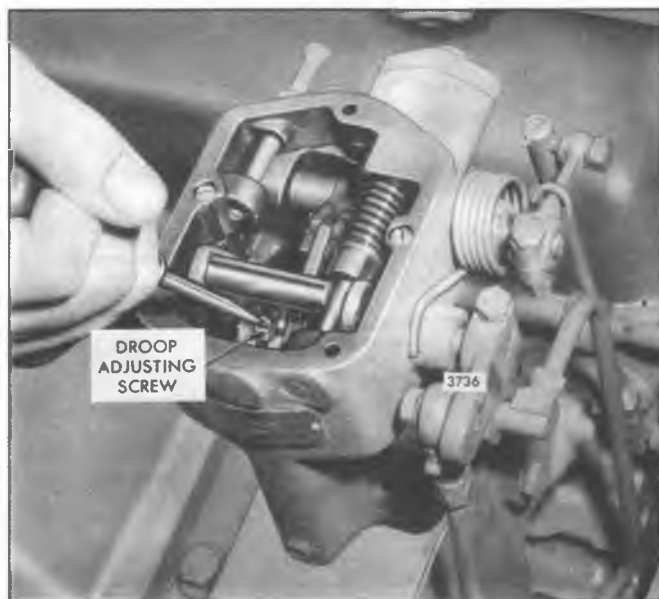

Fig. 9 – Adjusting Speed Droop
4. Loosen the droop adjusting screw. Move the droop adjusting bracket so that the screw is midway between the ends of the slot in the bracket. Tighten the screw (Fig. 9).